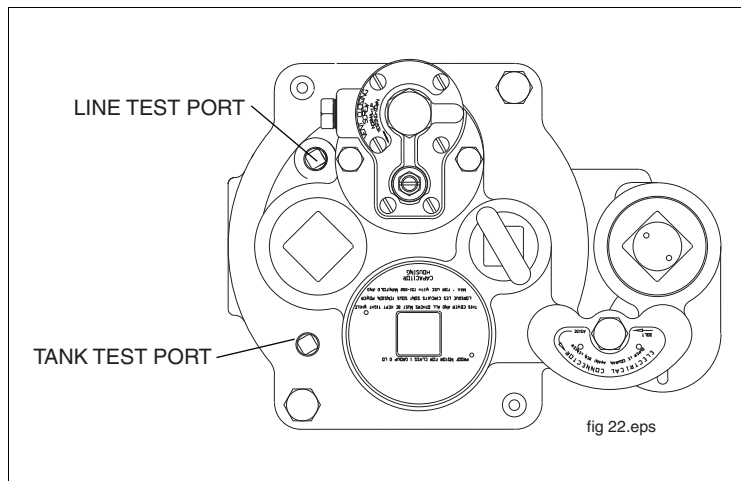

Figure 27. Line Test Port
3. Remove line test port plug and apply line test pressure at line test port (50 psi [345 kPa] maximum) - see Figure 27.